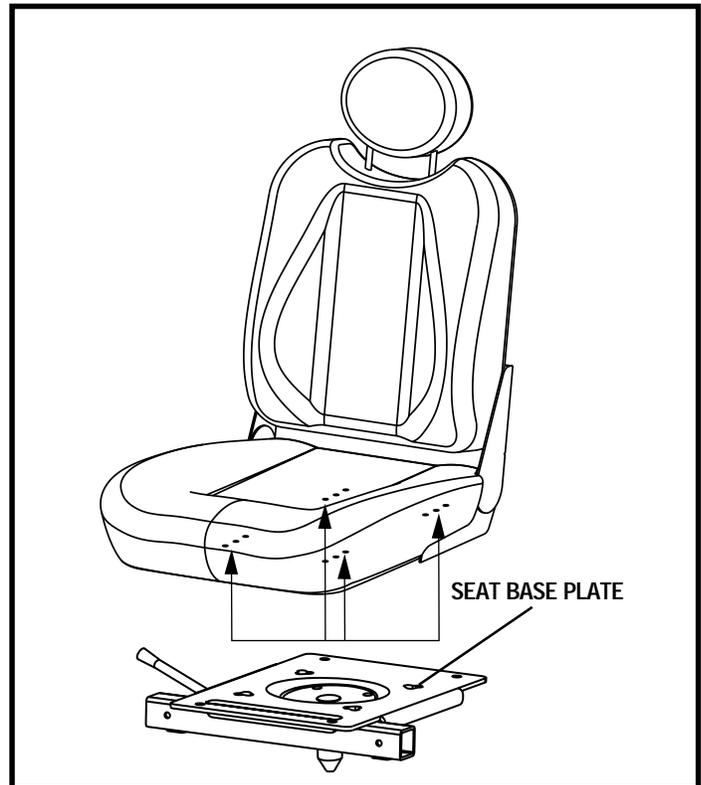

Figure 11. Seat Position Adjustment
3. Remove the seat base plate from the seat base. See figure 11.